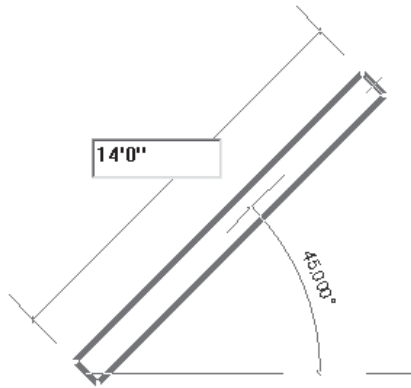

Figure 3-39 Sketching the first inclined wall segment
- f. Select the **Line** sketching option and sketch the inclined wall profile using the **Chain** option, refer to Figures 3-39 through 3-45.
5. Enter the value **14'0"** to specify the length of the first wall segment. The value is displayed in the edit box, as shown in Figure 3-39. This creates the first wall segment of the desired length.